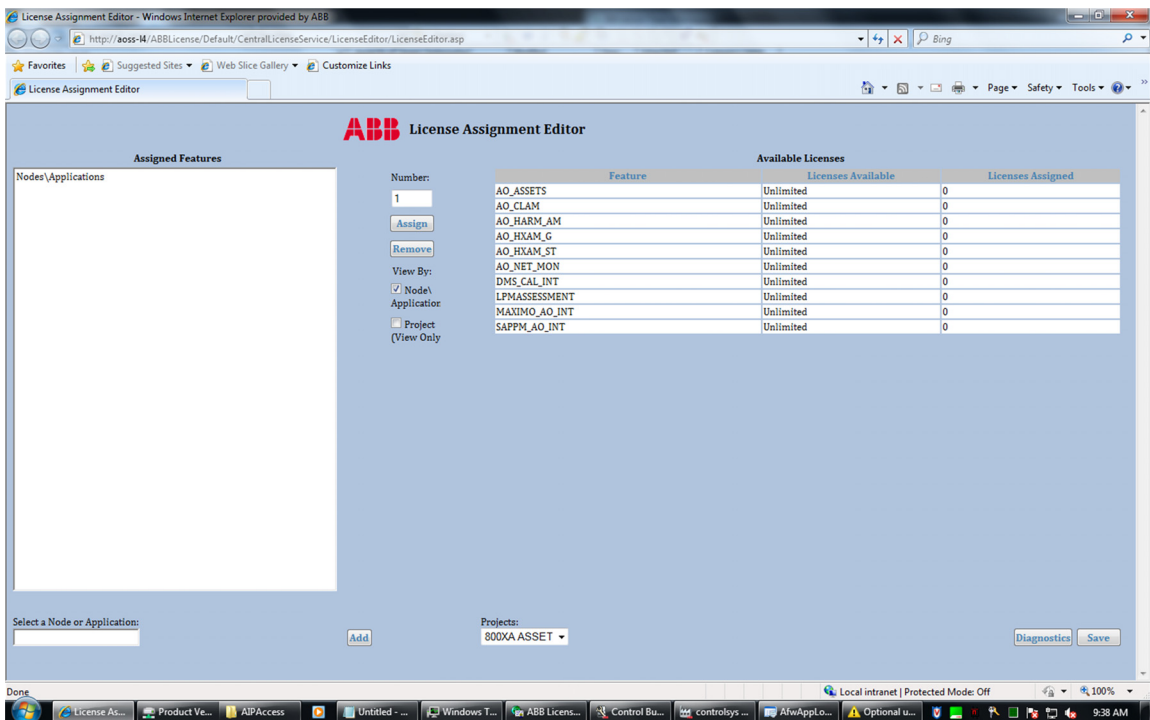

Figure 61. License Assignment Editor
2. This launches the License Assignment Editor as shown in Figure 61. Enter the name of the node in the Select a Node or Application field.
- b. This launches the License Assignment Editor as shown in Figure 61. Click **Diagnostics** to view the listing.